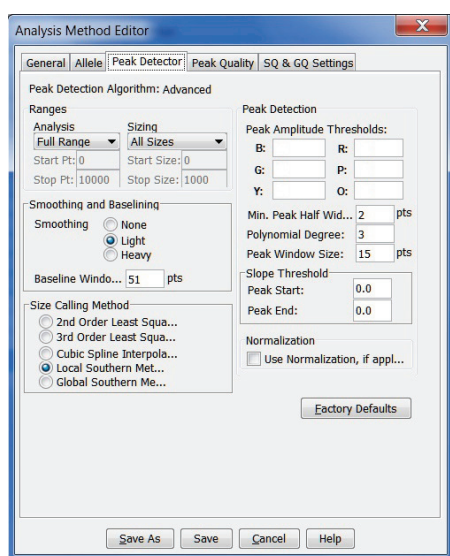

Figure 23. The GeneMapper® ID-X Software 'Peak Detector' tab.
9. Select the 'Peak Detector' tab (Figure 23). You will need to optimize these settings. In-house validation should be performed.